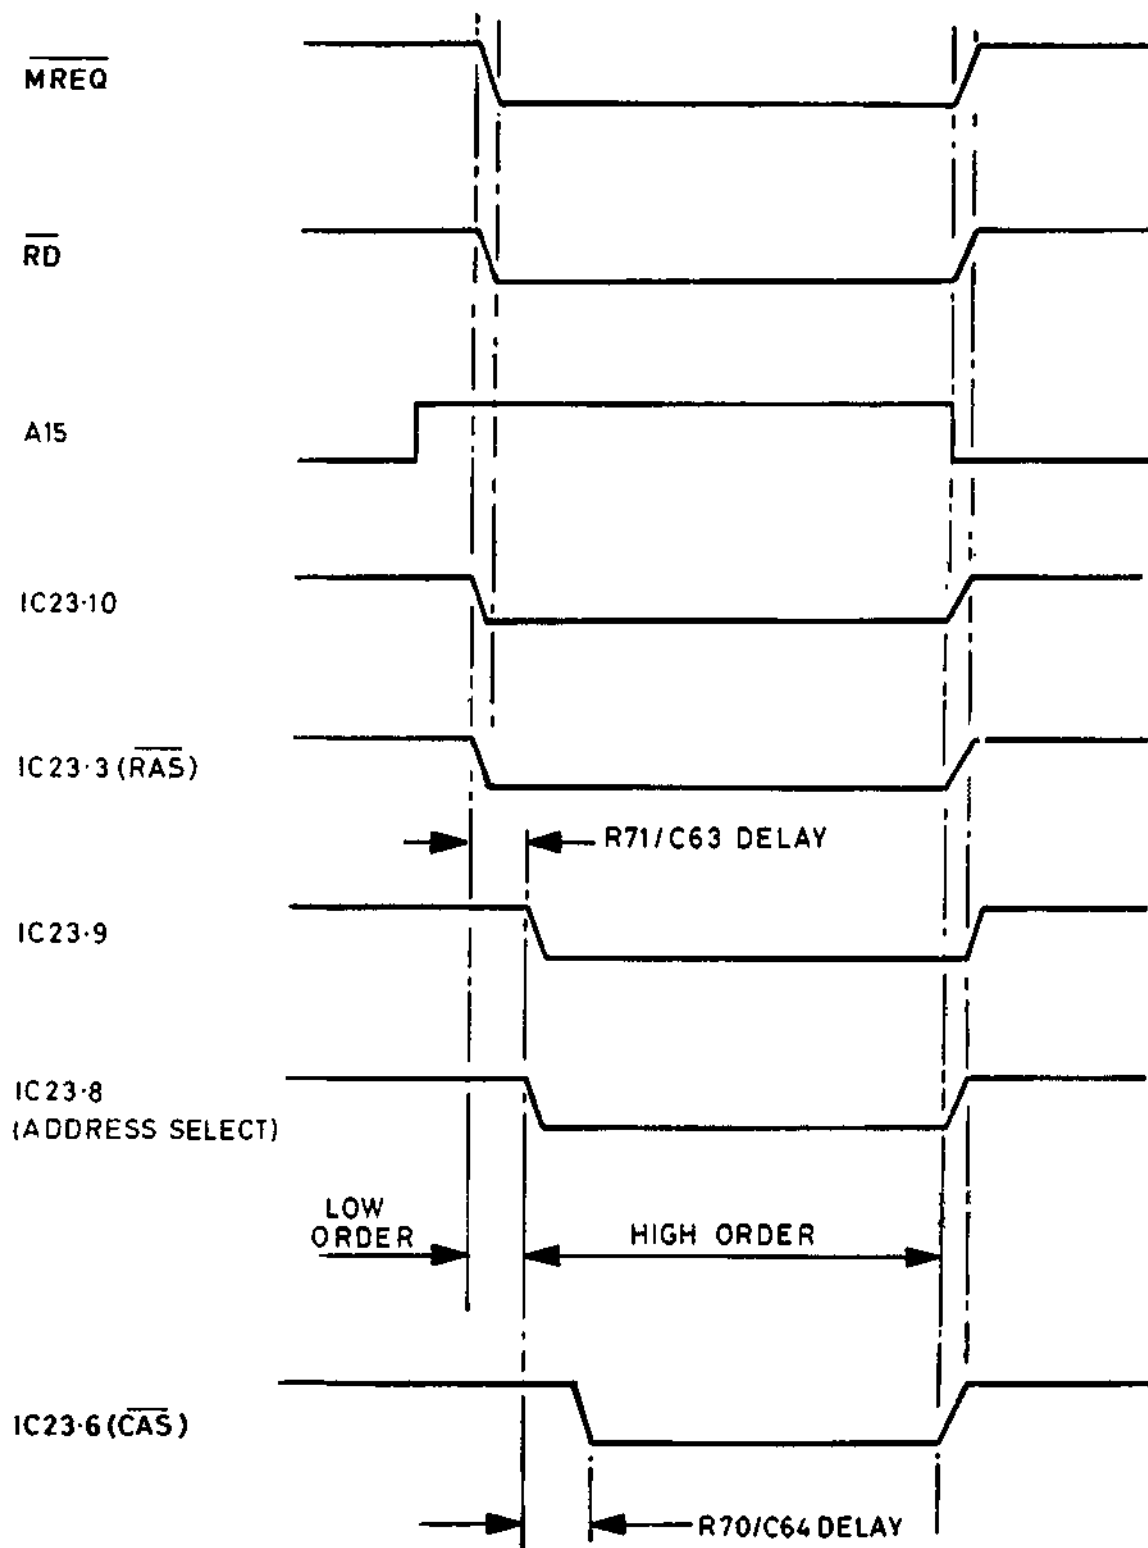

FIG 1.2 EXPANSION RAM RAS/CAS TIMING (READ CYCLE SHOWN)
4.5.11 Row/column address selection and RAS/CAS timing for the RAM is decoded in IC23/IC24 from inputs supplied by the CPU, i.e. address line A15 selecting addresses 8000 upwards, and MREQ heralding a memory read or write cycle. A theoretical timing diagram illustrating the RAS/CAS waveforms is given in Figure 1.2.